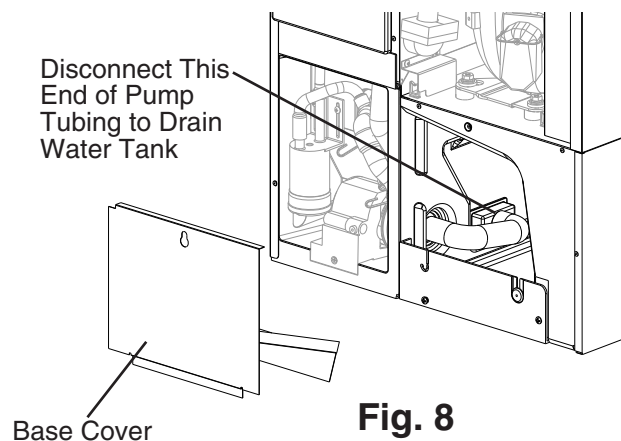

Fig. 8
- 3) Remove the base cover, then disconnect one end of the pump tubing to drain the water tank. See Fig. 8. After the water tank has drained, reconnect the pump tubing.